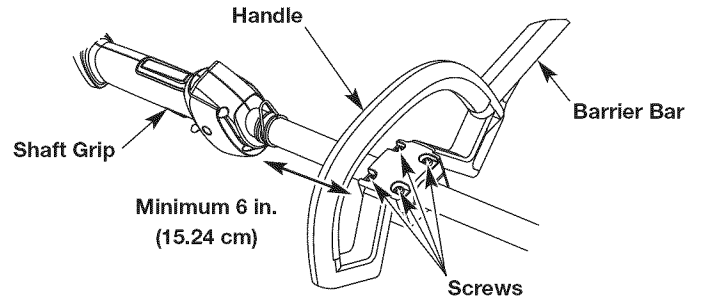

Fig. 2
2. While holding the unit in the operating position, move the handle to the location that provides the best grip. Place it a minimum of 6 inches (15.24 cm) from the end of the shaft grip (Fig. 2).